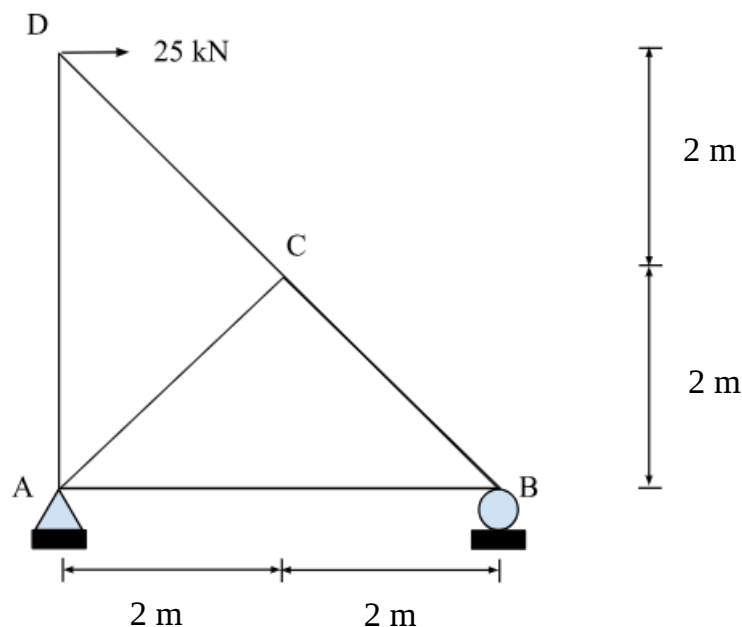

Figure A1(a)/ *Rajah A1(a)*
- CLO2 (a) Based on Figure A1(a), identify the internal forces for all members of the truss using the Method of Joint. Given the value of Reactions at joint A, B as follows and AC is a zero-force member.